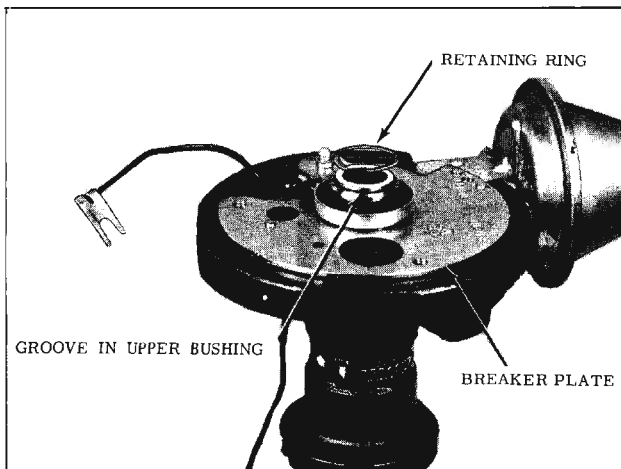

Fig. 14-51 Breaker Plate
4. Remove the retaining ring from the upper bushing and lift the breaker plate and felt wick from the bushing. (Fig. 14-51)